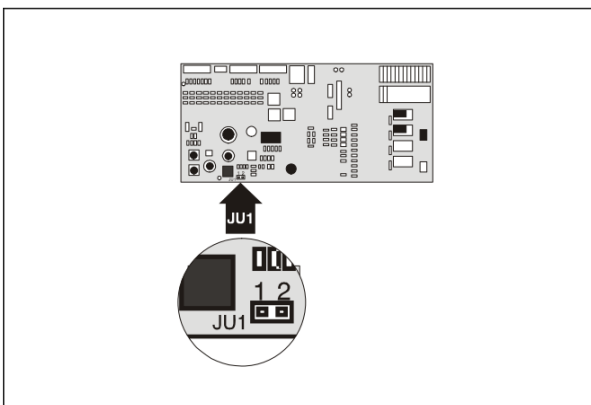

Figure 5: Ventilator Voltage Setting
- 3.7 Set the ventilator voltage (See Fig 5) as specified by the TranspTimeTITANUS calculation. Remove the jumper for higher 9V operation and leave in for 6.9V (default).